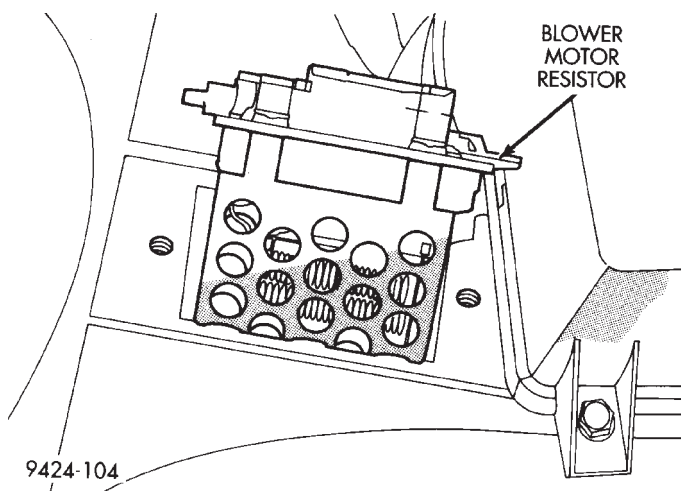

Fig. 27 Blower Motor Resistor
- (1) Remove lower right underpanel silencer/duct.
- (2) Disconnect wiring connectors on blower motor resistor.
- (3) Remove blower motor resistor retaining screws.
- (4) Pull blower motor resistor out of heater housing (Fig. 27).